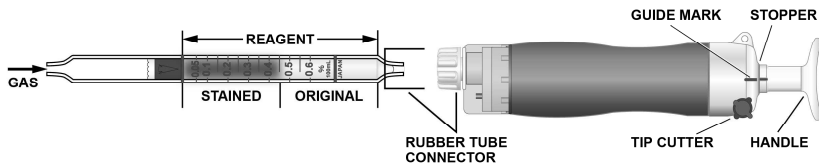

Fig.1
- ② Insert the detector tube into aspirating pump securely as shown in Fig.1. (Arrow mark shall point to the pump.)
- ③ Align the guide marks on the handle and stopper of the aspirating pump.
- ④ Pull the pump handle at a full stroke until it locks and wait for 1 minute or until the completion of sampling is confirmed with the flow indicator of the pump. (See descriptions about the flow indicator in the instructions manual of the pump.)
- ⑤ On completion of sampling, read the scale at the maximum point of the stained layer.
- ⑥ If the discolouration is over the scale, change the tube and pull 1/2 strokes.